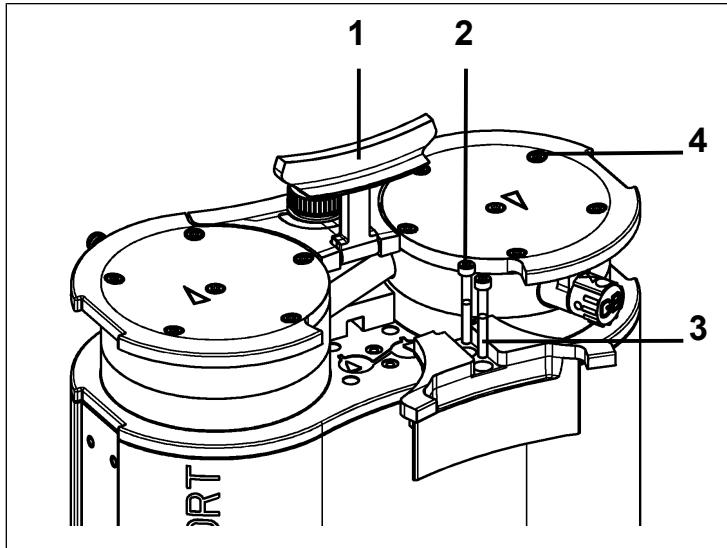

Fig. 8: Dismount cover
1. Set the handle (1/Fig. 8) to a vertical position.
2. Loosen the screws (2/Fig. 8) on the cover (3/Fig. 8).
3. Remove the cover (3/Fig. 8).
4. Loosen the external cap screws (4/Fig. 8).
1. Mark the pressure plate (2), head cover (3) and intermediate plate (6) with a continuous pencil stroke. This prevents the parts from being incorrectly mounted later on.
2. Loosen the external screws (4/Fig. 8) of the pump heads.
1. Move the diaphragms (7) to the center position.
2. Press on the entire perimeter of the diaphragm (7). Only press on the diaphragm (7) on one pump head.
3. Place the intermediate plate (6) with valve plates/seals (4) on the mount according to the pencil line.
4. Place the head cover (3) on the intermediate plate (6) in line with the locating pin (5).
5. Place the pressure plate (2) on the head cover according to the pencil line.
7. Tighten the screw (1) in the center of the pressure plates (tightening torque: 1 Nm).
9. Place the pump heads (consisting of head cover (3), intermediate plate (6) with valve plates/seals (4) and pressure plate (2)) together with the connection tube on the pump housing according to the pencil line.
10. Mount the handle cover (3/Fig. 8).
11. Tighten the screws (2/Fig. 8) of the handle cover (3/Fig. 8) (tightening torque: 2 Nm).